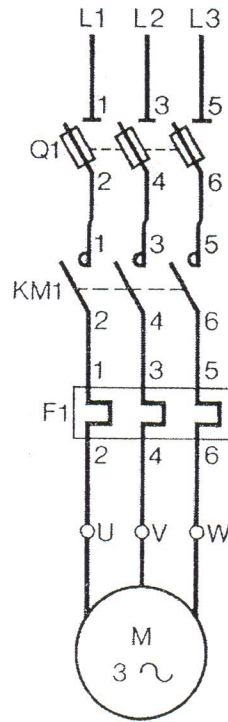

Figure 2 : Power Circuit
- (a) From **Figure 2**, design the control circuit and provide three indicator lights for: